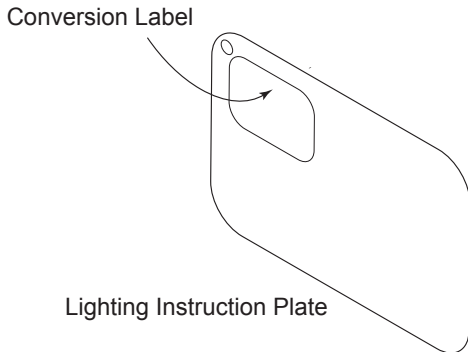

Figure 5 - Apply Conversion Labels over Existing Certification Label on Lighting Instruction Plate
1. Apply conversion label over top of existing certification label (see Figure 5). Existing certification label is located on lighting instruction plate inside gas valve compartment area. With permanent ink, print previous model number on label in space provided (see Figure 6).